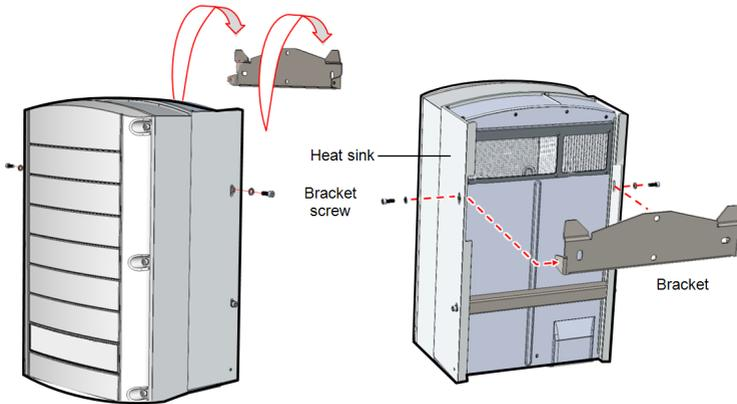

Figure 16: Hanging the Synergy Unit
- For the right or left Synergy Units, insert only one screw through the outer (exposed) side of the unit and into the bracket. Tighten the screws to a torque of 2.9 lb.\*ft (see *Figure 16*).